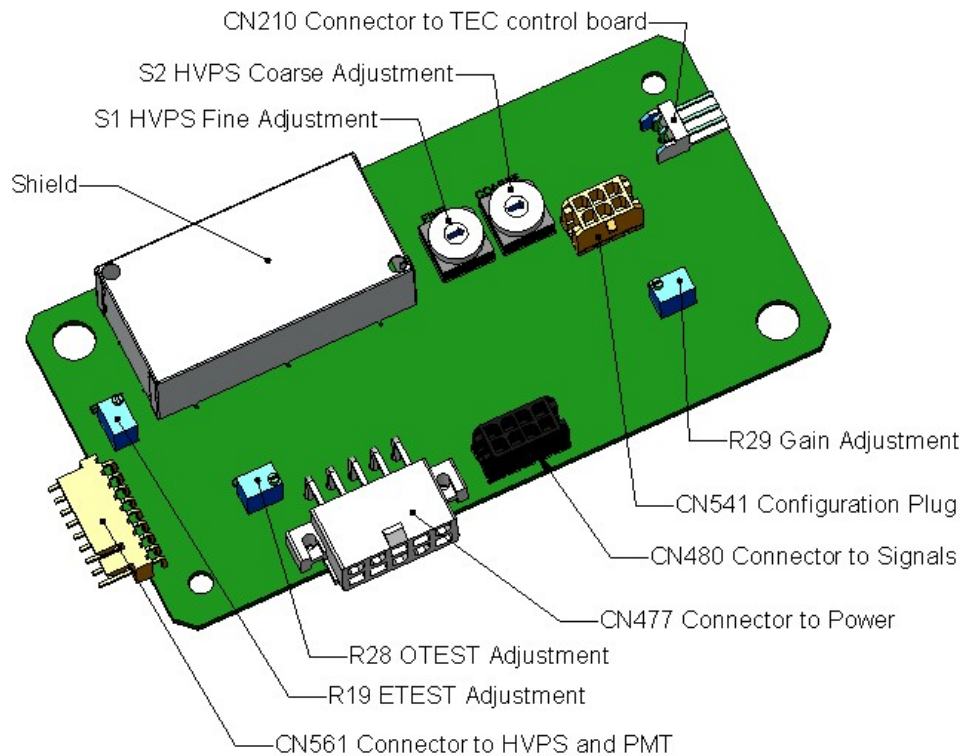

Figure 11-6: Pre-Amplifier Board Layout
- Locate the following components on the preamplifier board (Figure 11-6):
- Set the HVPS coarse adjustment to its minimum setting (0). Set the HVPS fine adjustment switch to its maximum setting (F).